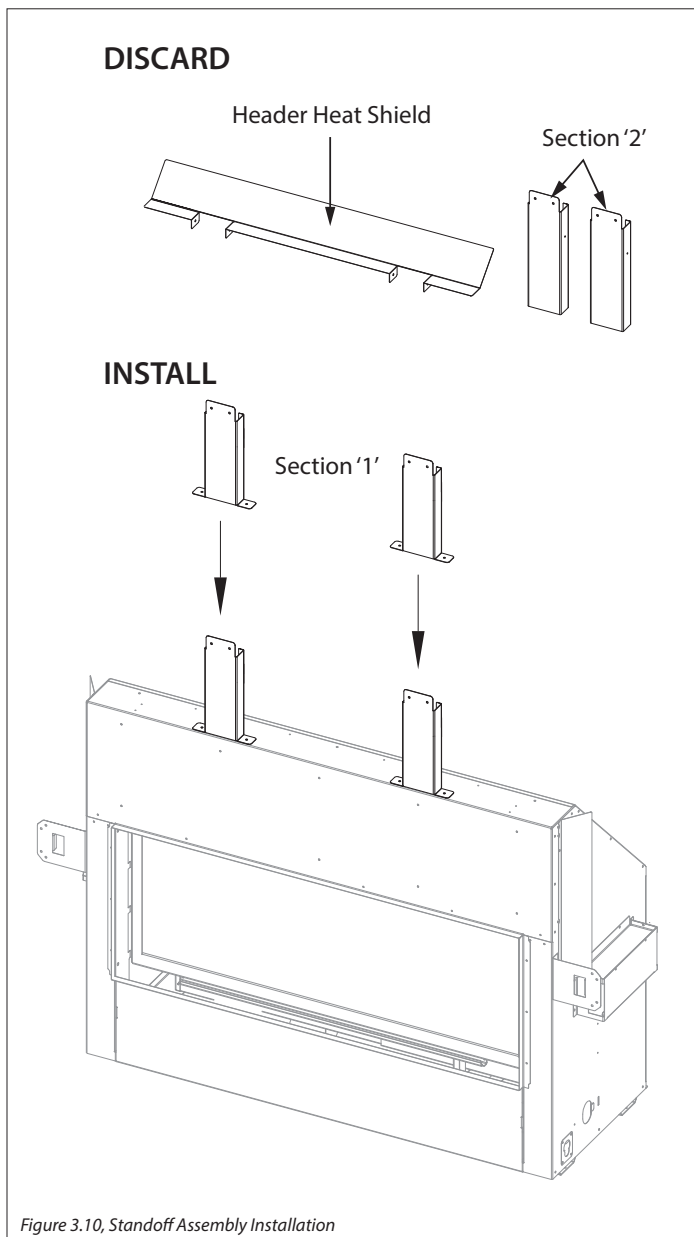

Figure 3.10, Standoff Assembly Installation
1. Remove and save (4) screws securing the header heat shield on top of the fireplace.
3. Using the screw previously removed, install section '1' to the top of the fireplace as shown in Figure 3.10